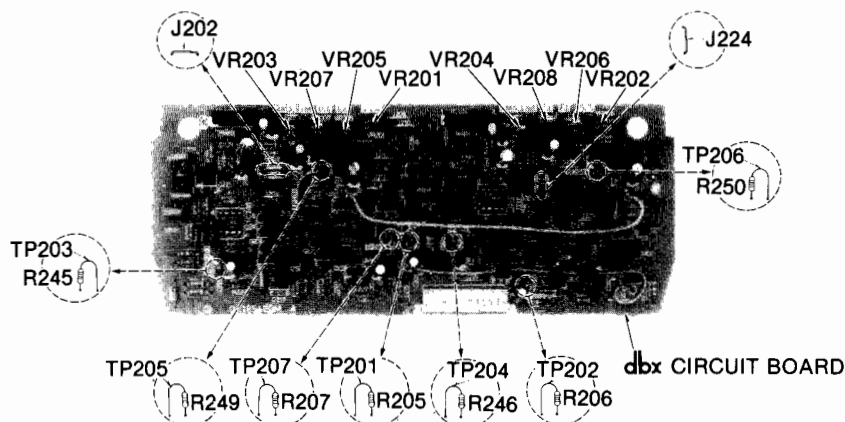

Fig. 2
② Adjustment of VCA Condition: • Record /stop mode • Input level controls ... MAX • Noise reduction selector ... disc/dbx tape Equipment: • VTVM • Oscilloscope • Resistor (100 Ω, 3.9 Ω)	Preparation before adjustment 1. Before adjusting VCA, from the device shown below using resistors of 100 Ω and 3.9 Ω (See fig. 8) 2. Set NR switch to dbx disc. Remove jumpers [J202 (L-CH) and J224 (R-CH)]. 3. Arrange connections referring to wire connection diagram (fig. 9 and 10), since 0V, +180mV and -180mV (DC) are applied in this order to pin 2 of IC201 (L-CH) and pin 2 of IC202 (R-CH)  Fig. 8  Fig. 9 Connections when applying +180mV and 0V Adjust DC power supply and arrange connections so that +180mV or 0V can be applied to TP203 (L-CH) and TP204 (R-CH)  Fig. 10 Connections when applying -180mV Adjust DC power supply and arrange connections so that -180mV can be applied to TP203 (L-CH) and TP204 (R-CH). Adjustment procedure 1. Apply 0V to pin ② of IC201 (L-CH) and pin ② of IC202 (R-CH), and a horizontal line will appear on the screen of the oscilloscope. Use this line as the reference line. 2. Apply +180mV to pin ② of IC201 (L-CH) and pin ② of IC202 (R-CH) (See fig. 9), and check that the level is not more than 10mV from the reference line. If improper, adjust VR201 (L-CH) and VR202 (R-CH). 3. In the same way, apply -180mV to pin ② of IC201 (L-CH) and pin ② of IC203 (R-CH) (See fig. 10), and check that the level is not more than 10mV from the reference line. If improper, adjust VR201 (L-CH) and VR202 (R-CH). 4. Repeat steps 2 and 3, and adjust VRs so that the levels are within ± 10mV when +180mV and -180mV are applied (fig. 11). 5. After adjustment, connect jumpers J202 (L-CH) and J224 (R-CH) (See fig. 2).  Fig. 11
③ Adjustment of dbx standard level Condition: • Record /stop mode • Input level controls ... MAX	NOTE: Be sure to perform the standard level adjustment in dbx Encode, followed by the standard level adjustment in dbx Decode.